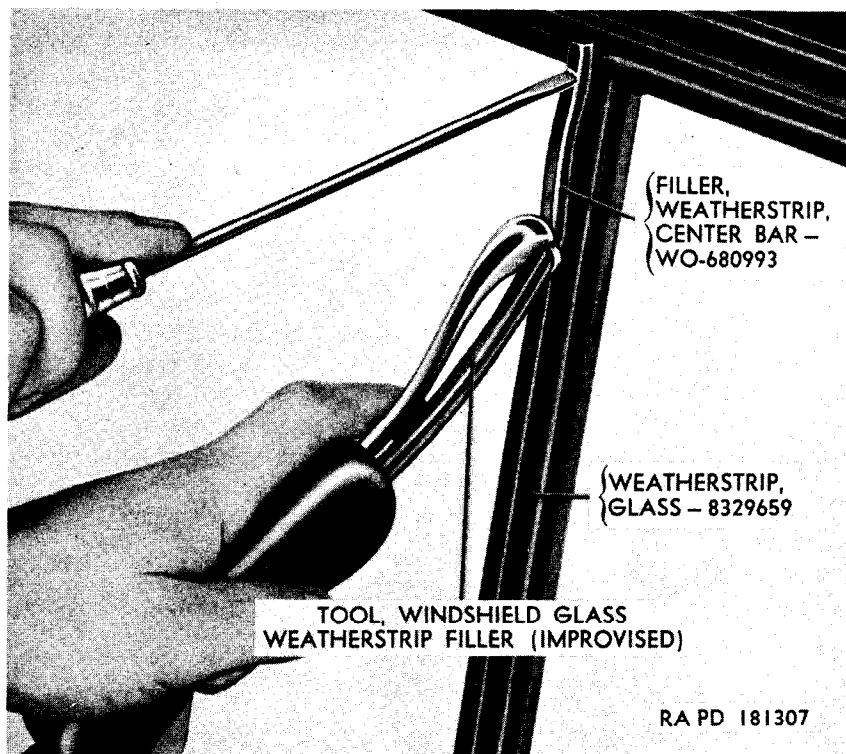

Figure 171. Installing windshield glass center bar weatherstrip filler.
Note. Position windshield glass so trade name reads right side up. Install other windshield glass in same manner. Soap interior of improvised windshield glass weatherstrip filler tool (figs. 9 and 170) and insert end of outer weatherstrip filler (LL) through loop end of tool and handle. Soap interior slot of windshield glass weatherstrip. Using a screwdriver, insert end of filler into weatherstrip at upper right side. Install outer weatherstrip filler into weatherstrip by guiding filler into weatherstrip with improvised weatherstrip filler tool. Install center bar weatherstrip filler (fig. 171) with filler tool in same manner.